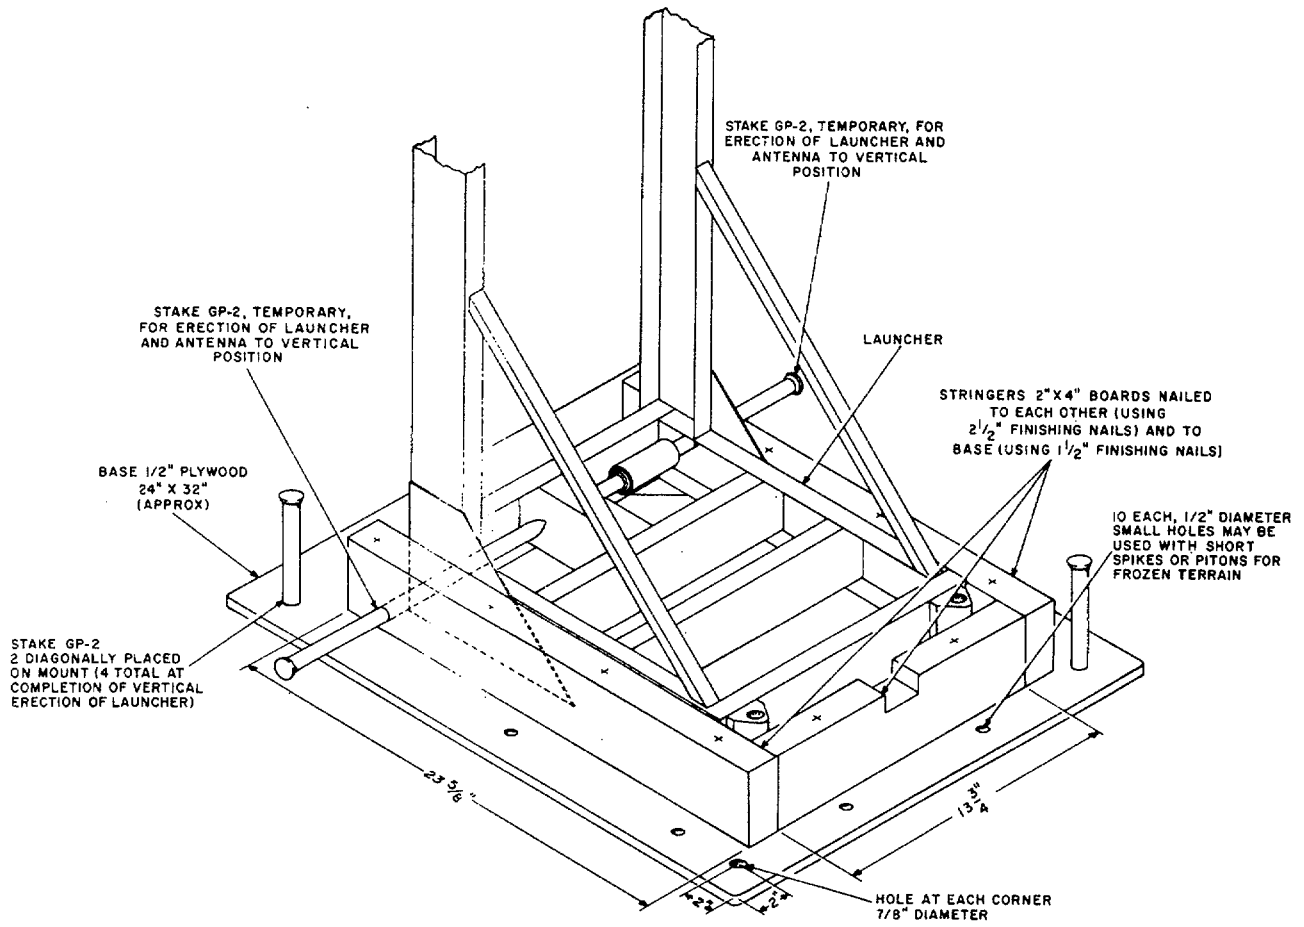

Figure 2-21. Fabrication details of wooden base to be used with launcher.
a. During erection, put the wood base on the bottom of the launcher with the hinge stake through the launcher and side stringers of the base (fig. 2-21 and 2-17^{1, 2}). Drive the stakes into the holes at the corners of the base instead of the launcher during the erection procedures (para 2-7). It is not necessary to drive the stakes far into the ground; they are to hold the wooden base from shifting.